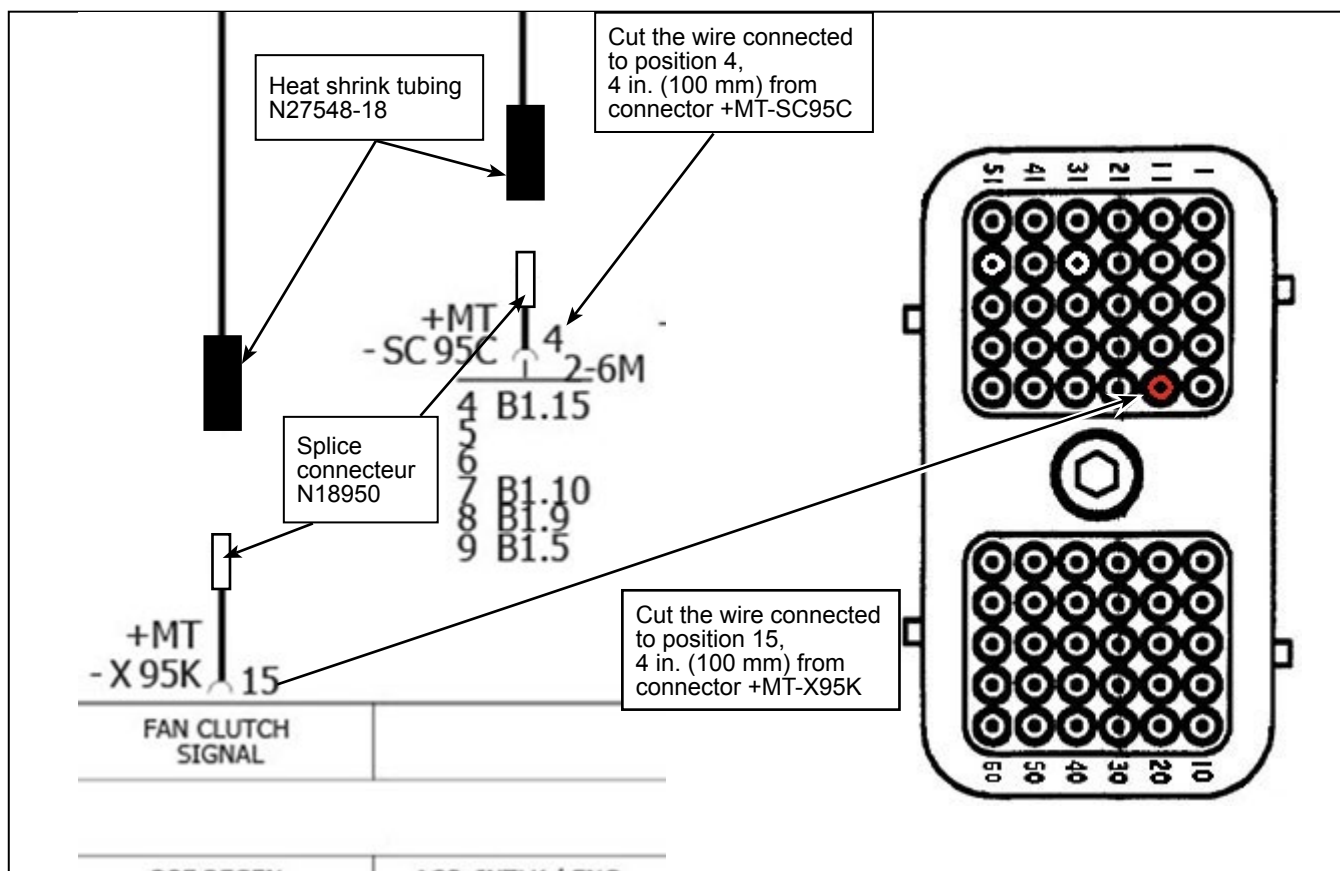

Figure 6 - Wires to be Cut and Insulated on the +MT-X95K and +MT-SC95C Connectors
- 1.10. Cut the 16 WH wire of the CAB095Z cable connected to position #15 of the +MT-X95K connector. Skin and install a N18950 splice connector on the connector side of the cut wire. See Figure 6.
- 1.11. Cut the 16 BK wire of the CAB095Z cable connected to position #4 of the +MT-SC95C connector. Skin and install a N18950 splice connector on the connector side of the cut wire. See Figure 6.
- 1.20. Crimp the 16 WH wire on the splice connector installed on the wire at position #15 of the +MT-X95K connector. See Figure 6.